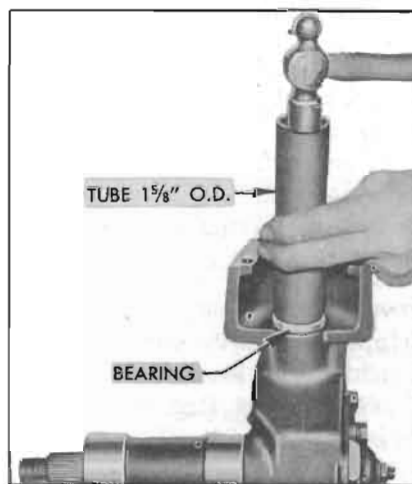

Figure 7-12—Installing Control Shaft Lower Bearing
5. Inspect oil shedder and control shaft bearing in gear housing. If bearing is of doubtful condition replace it, using a square-ended heavy-walled tube $1\frac{5}{8}$ " outside diameter to drive new bearing squarely into housing. See figure 7-12. Use care when installing new bearing as hard shifting of control lever will result if this bearing is damaged.